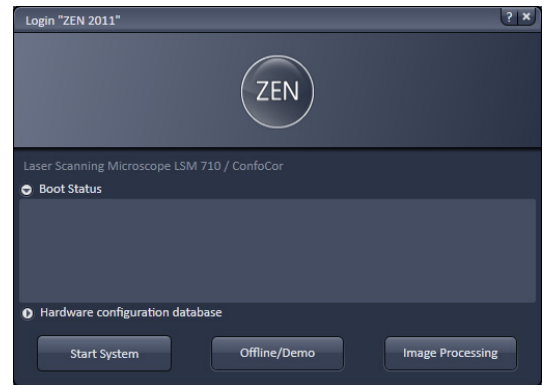

Fig. 9 Starting the ZEN software – The Login "ZEN" dialog with **Boot Status** field expanded
A third option, **Offline/Demo**, becomes available (Fig. 9), once the **Boot Status** field is expanded by pressing the **expansion** symbol (triangle).
- **Start System** for system control, data / image acquisition / recording and analysis. The whole microscope system will be initialized. The progress of the boot process will be displayed by the blue time tab. During booting the status of the system will be displayed in the **Boot Status** window and the single components will be listed which have been or are currently being checked during the boot process (Fig. 9).